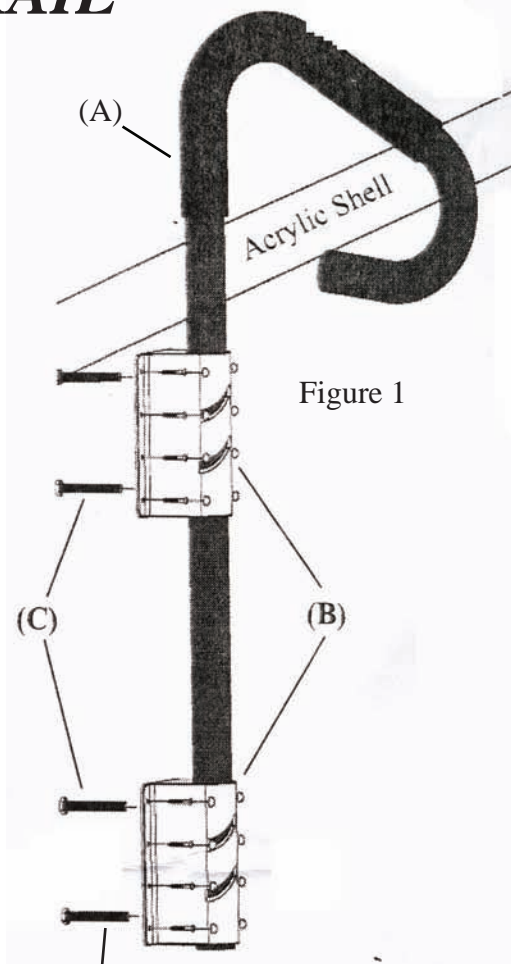

Figure 1
Slide the two Brackets (B) on to the handrail Arm (A) and roughly position them where you would like to attach the handrail on your spa cabinet. (See Fig. 1)